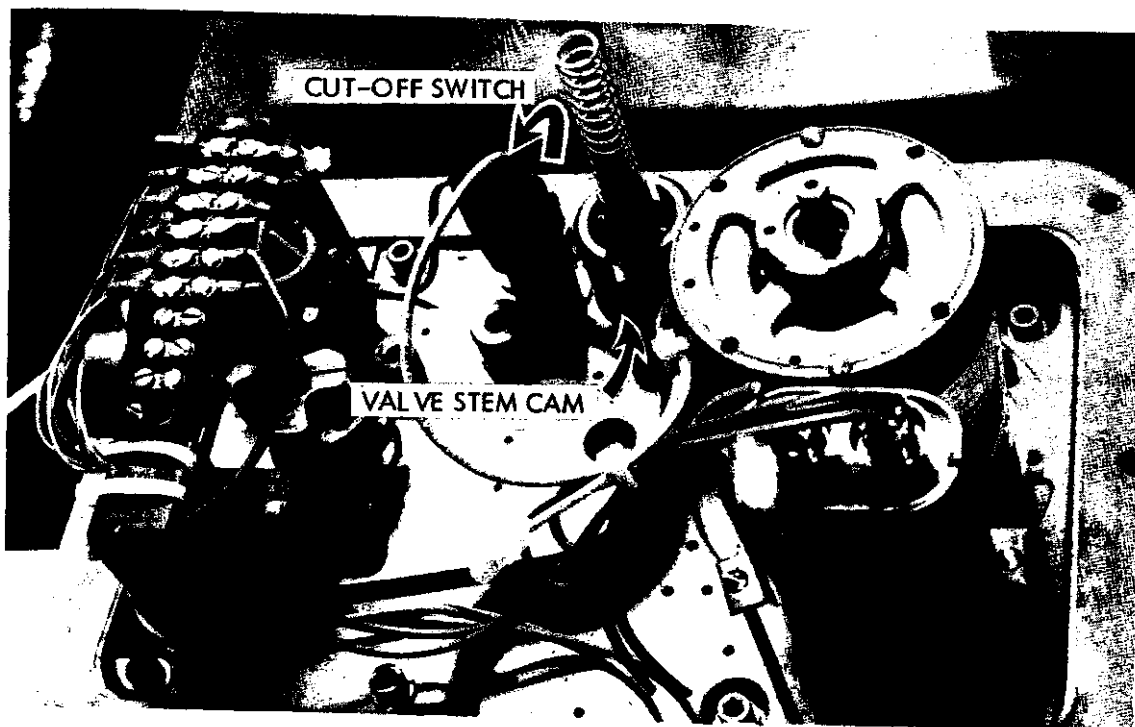

FIGURE 5-2
5.15.3 Safety Shut-Off Switch Inoperable. If actuator does not operate, the safety shut-off switch on handwheel stem may be improperly adjusted (see Figure 5-2). Remove cover, readjust limit switch so that it is engaged (contact open) only when the handwheel is depressed for manual operation.